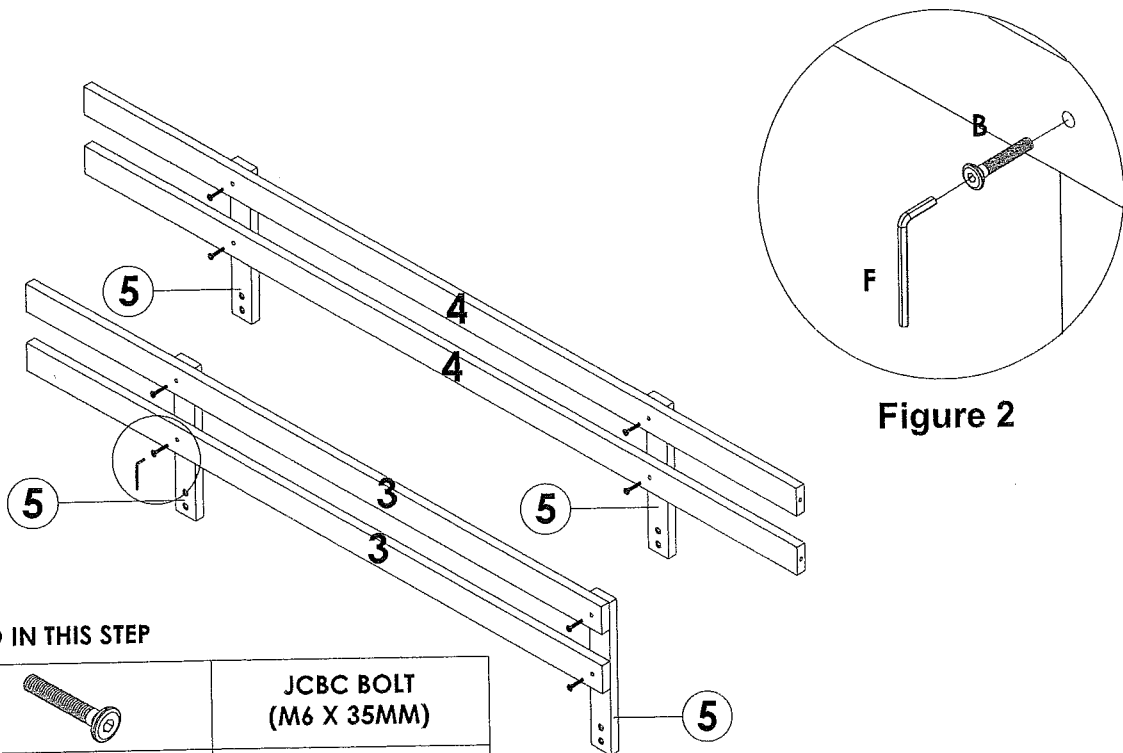

Figure 2
1. Attach **Rail Supporters** to **Semi Guardrail** and **Full Guardrail** by using **JCBC Bolts (B)**.
2. Tighten it up by using an **Allen Key (F)** as shown in **Figure 2**.